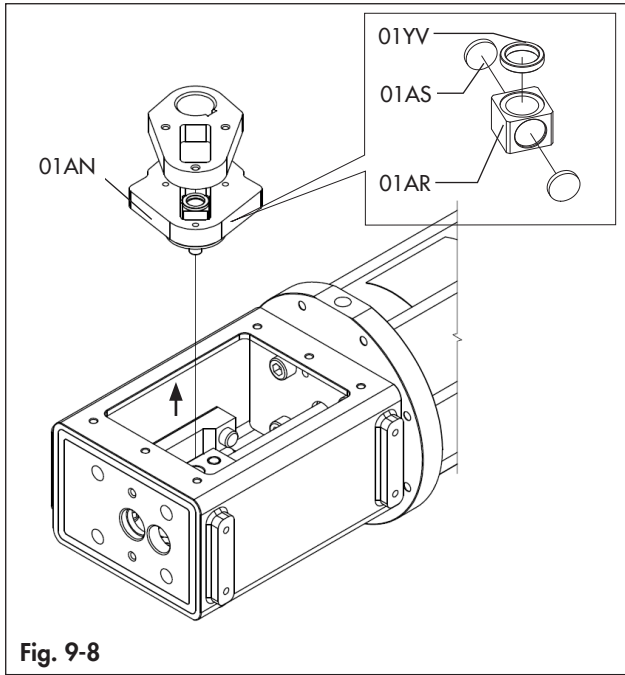

Fig. 9-8
- Remove the yoke (01AN). Carefully remove also the lower sliding block (01AR) from the yoke lower wing, the sliding plates (01AS) and the thrust bearing (01YV). (Fig. 9-8).